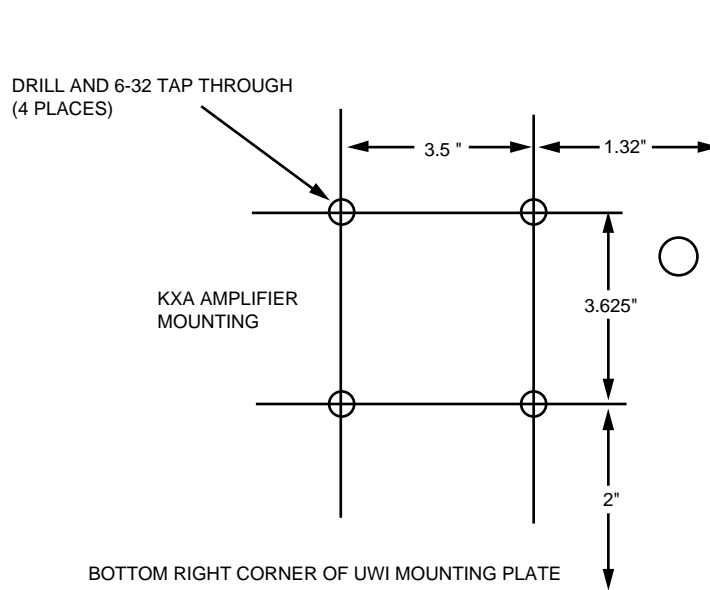

Figure 8-1 KXA Motor Speed Control Mounting Dimensions
- a. Drill new holes in the UWI mounting plate (see Figure 8-1).